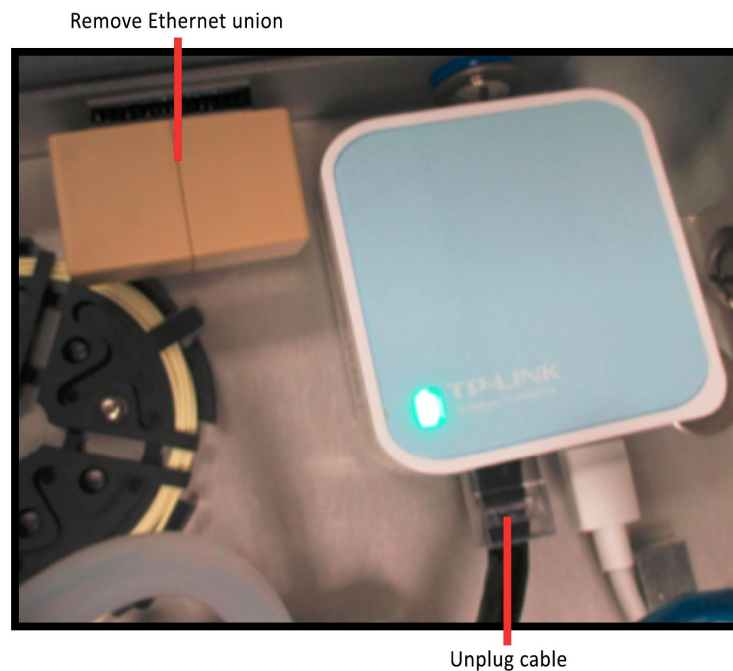

Figure 63: Unplug Cable and Remove Ethernet Union
1. Unplug the black cable from the router *LAN/WAN* port. (Figure 63)
2. Remove the Ethernet union (next to the router). (Figure 63)